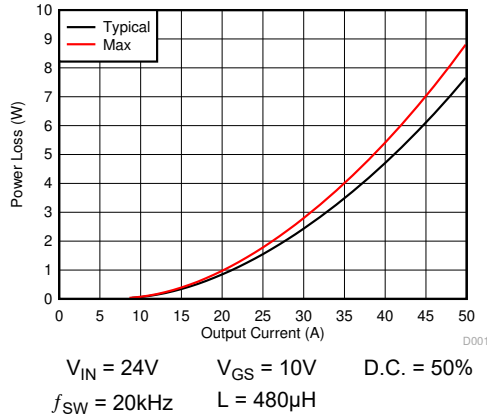
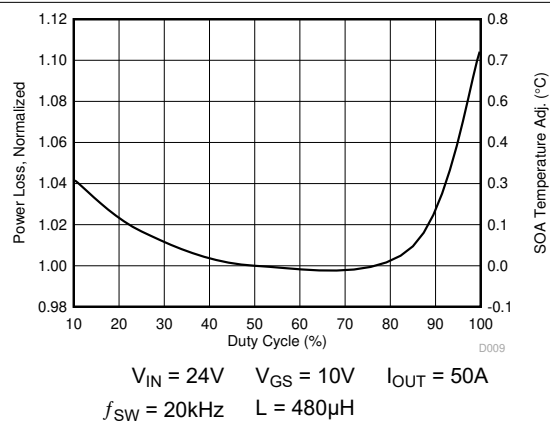

图 4-1. Power Loss vs Output Current
图 4-6. Normalized Power Loss vs Duty Cycle
The typical power block system characteristic curves (图 4-1 through 图 4-6) are based on measurements made on a PCB design with dimensions of 4in (W) × 3.5in (L) × 0.062in (H) and 6 copper layers of 2oz copper thickness. See 节 5 section for detailed explanation.  $T_J = 125^\circ\text{C}$ , unless stated otherwise.
图 4-1 plots the CSD88584Q5DC power loss as a function of load current. The measured power loss includes both input conversion loss and gate drive loss.
In the example below, we show how to achieve this for the temperatures  $T_C = 124^{\circ}\text{C}$  and  $T_B = 120^{\circ}\text{C}$ . First we draw from 50 A on the Y-axis at  $124^{\circ}\text{C}$  to  $120^{\circ}\text{C}$  on the X-axis. Then, we draw a line up from where this line crosses the  $T_{\chi}$  line to see that this line intercepts the SOA at 39A. Thus we can assume if we are measuring a PCB temperature of  $124^{\circ}\text{C}$ , and a top case temperature of  $120^{\circ}\text{C}$ , the power block can handle 39A RMS, at the normalized conditions. At conditions that differ from those in 图 4-1, the user may be required to make an SOA temperature adjustment on the  $T_{\chi}$  line, as shown in the next section.
- Power loss at 40A  $\approx$  4.7W (图 4-1)
- Normalized power loss for duty cycle  $\approx$  1.06 (图 4-6)
- SOA adjustment for duty cycle  $\approx$  0.4°C (图 4-6)